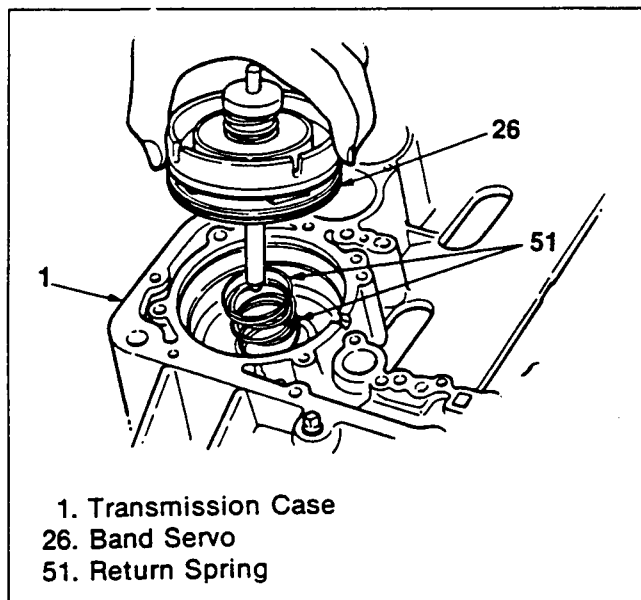

Figure 244. Band Servo Installation
Band Servo (Figures 244 and 245)
1. Put two return springs into the case (figure 244).